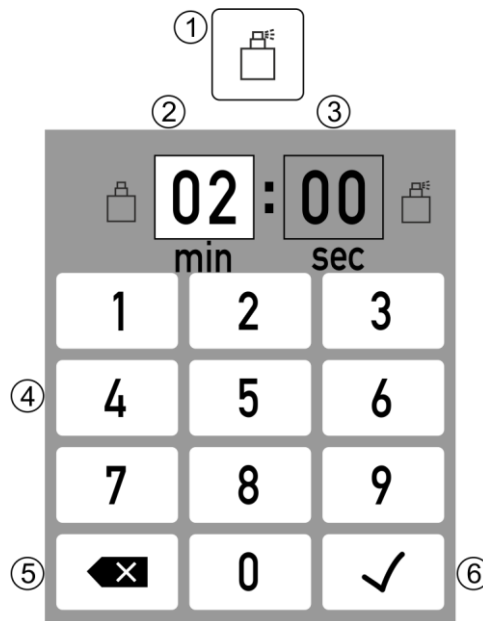

Fig. 4: Menu for aroma settings
1. Touch one of the time fields 2/3 (refer to fig. 4) to activate.
2. Enter the preferred time in the number field (4) and using the backspace key (5).
3. The value is saved once you press the enter key (6).
Only FCU5000-STEAM: Press and hold the menu symbol for the aroma pump (refer to fig. 4) to manually activate the aroma pump for the duration of your keypress.